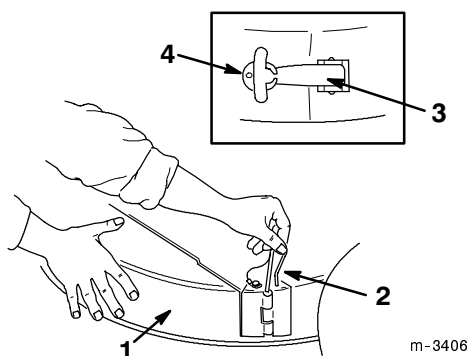

Figure 4
1. Lift the mower deflector and slide the front of the chute into the locking position on the mower. Insert the locking pin (Fig. 4).
- Hook the flexible latch on the chute into the notched bracket on the back of the mower (Fig. 4).
- Release the flexible latch and remove the locking pin securing the chute to the mower. Pull the chute out of the mower (Fig. 4).